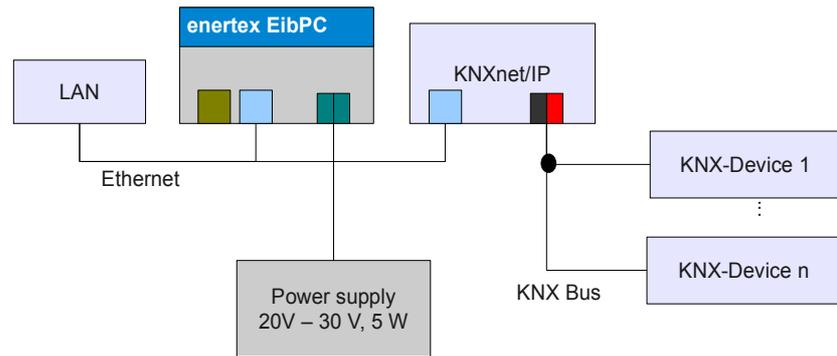

Figure 8: Installation of the Enertex® EibPC using an KNXnet/IP interface
Figure 8 shows the connection of the Enertex® EibPC to the KNX bus using a KNXnet/IP interface. Proceed as explained above, except for the RS232 connection (3).